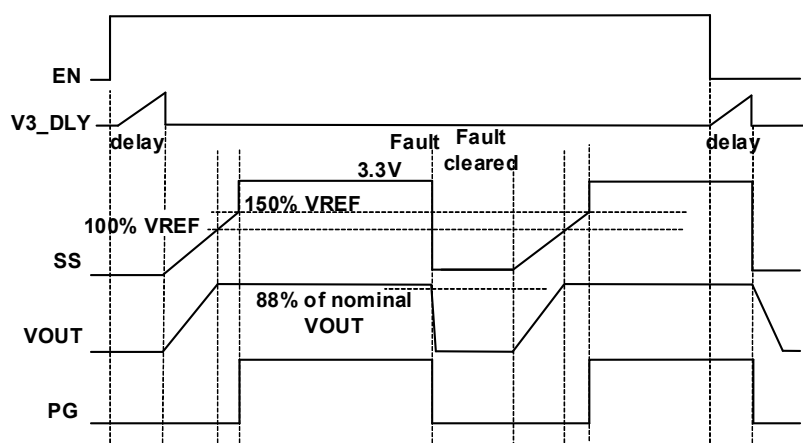

Figure 57. Power-Good Signal
The RAA211650 provides a power-good (PG) signal that indicates the output voltage is within a specified tolerance of its target level, and a no-fault condition exists. The PG pin is the open drain of a MOSFET. For logic level output voltages, connect it to a voltage source through a pull-up resistor. At power-on, the PG signal is held low before SS is ready, and it is asserted when the SS voltage reaches 1.2V, and FB voltage is within the regulation window. When the FB voltage goes 12% below or 12% above the nominal value, PG is pulled low, as shown in Figure 57. Any fault condition forces PG low until the fault condition is cleared by attempts to soft-start.